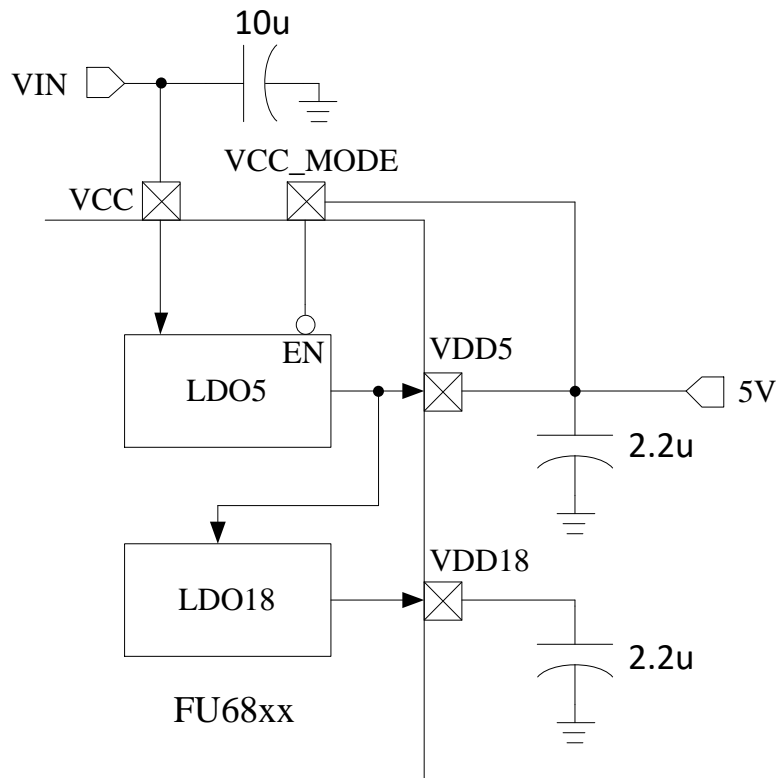

Figure 31-4 Dual-power Supply Mode
- Dual-power Supply Mode ($VCC_MODE = 1$): $VCC \geq VDD5$, $VCC = 5 \sim 36V$ and $VDD5 = 5V$. See Figure 31-4 for details.